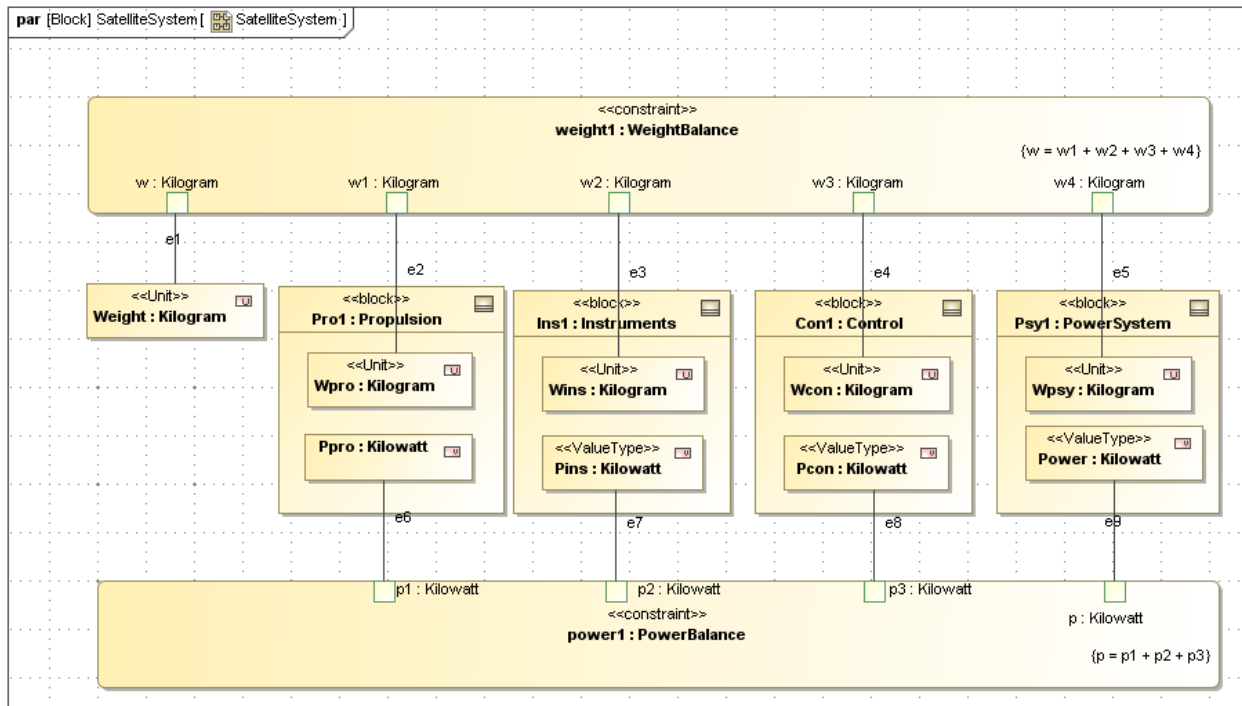

Figure 3.5 SysML Parametrics Diagram
- i. Use the Edit Compartment and Presentation Options commands to display the internal structure as shown in Figure 3.5
- iv. Rearrange port icons inside weight1 as shown in Figure 3.5.
- f. Add connectors (central toolbar or floating toolbar) from the Value or Part Property attributes to the Constraint Property parameters as shown in Figure 3.5.